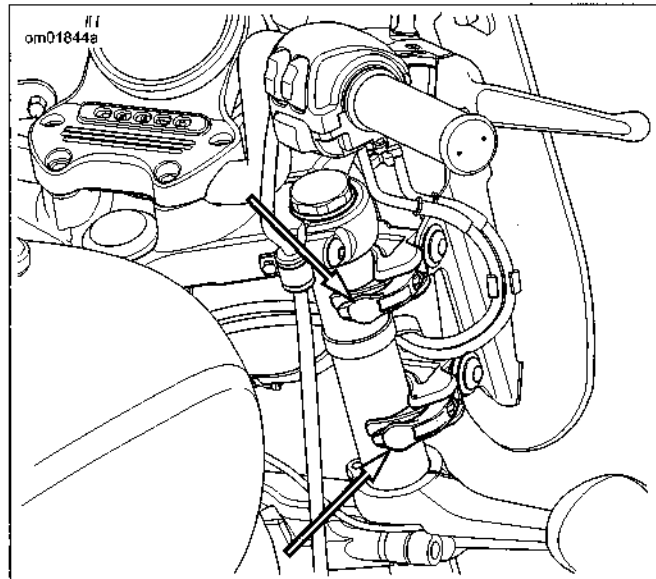

Figure 2-163. Windshield Clamp Levers
- See Figure 2-163. While supporting the windshield, open the clamp levers.